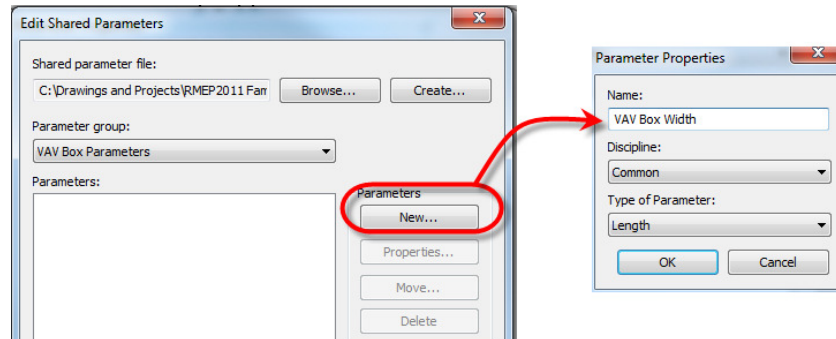

Figure 15. Creating the first shared parameter.
13. Click **New** under *Parameters* (see figure 15).